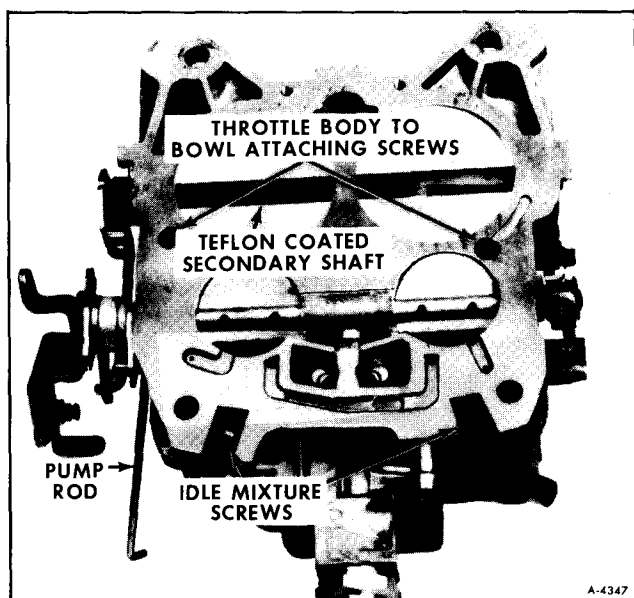

Figure 23—Throttle Body Attaching Screws
2. Remove screws attaching throttle body to bowl as shown in Figure 23.
2. Install throttle body, properly located over dowels on float bowl then install throttle body to bowl screws and tighten evenly. See Figure 23.